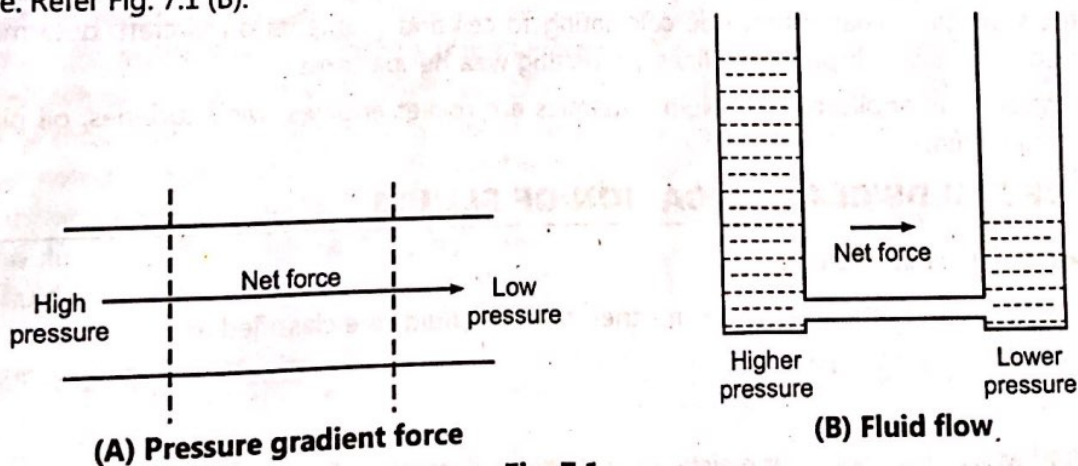

Fig. 7.1
- The pressure gradient results in a net force called the pressure gradient force. This force is directed from high pressure to low pressure within the fluid. The tendency of fluid to flow is from higher pressure to lower pressure. Refer Fig. 7.1 (B).